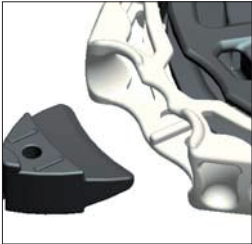

Fig. 1
1. Pull on the red lanyard and remove the wedge-shaped divider. Rotate the system so that notches in the stainless steel line guard and the linedriver are aligned (fig 1).